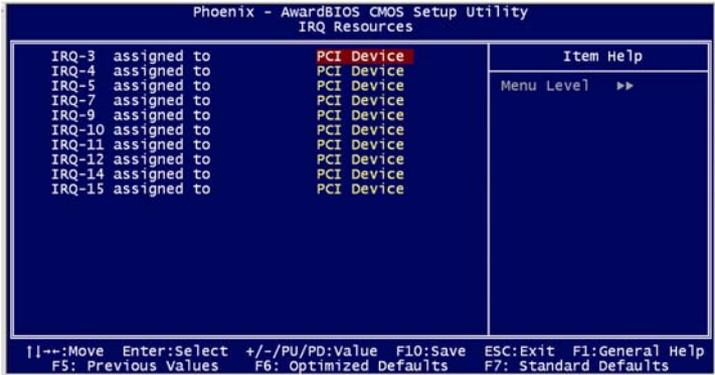

Figure 3.11
- ▶ **IRQ Resources** - When resources are controlled manually, each system interrupt must be assigned a corresponding IRQ number. The corresponding IRQ type is dependant upon the type of device that requires the interrupt. The settings for this function are PCI Device and Reserved. See Figure 3.11 below.